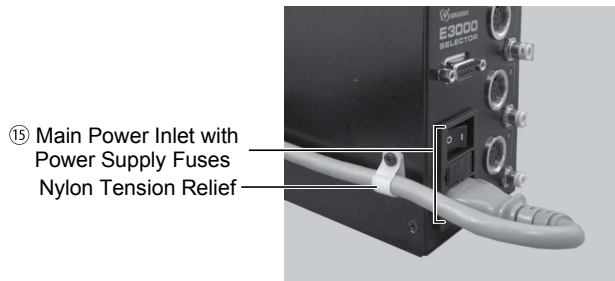

Fig. 12
- When connecting the Power Cord Plug, make sure the Main Power Switch ⑭ is turned OFF.
- (1) Insert the female Power Cord Plug into the Main Power Inlet with Power Supply Fuses ⑮ on the front of the SELECTOR.
- (2) A tapped hole is provided on the lower, right side of the SELECTOR for attaching the tension relief. Use the provided nylon tension relief to attach the Power Cord to the side of the SELECTOR when mounting vertically.
*When placing the SELECTOR horizontally (Fig. 12), do not use the provided nylon tension relief to attach the Power Cord to the side of the SELECTOR.